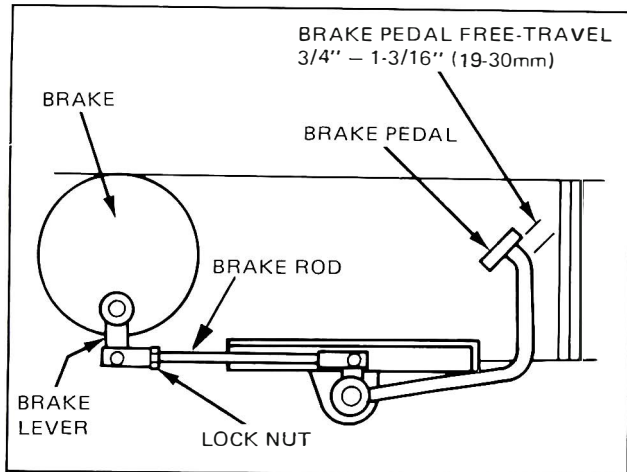

Figure 60 – Brake Pedal Adjustment
2. Loosen the lock-nut, Figure 60, and rotate the brake rod as necessary until there is 3/4-1-3/16 inch (19-30 mm) of pedal free play. Lengthening the rod increases free play while shortening the rod decreases free play.